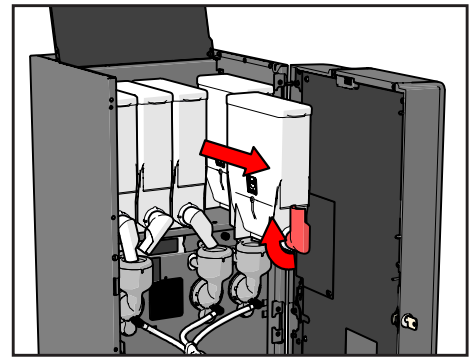

Figure 7.
Make sure there is enough open space around the machine. Minimum needed dimensions (in mm) see Figure 7. Place the machine as such that the highest surface of the machine is located at least 120 cm above the floor surface. If the unit is placed directly underneath a cupboard, allow a space of at least 150 mm.
9. Remove the instant canisters from the machine with the spouts facing upwards (see Figure 7).